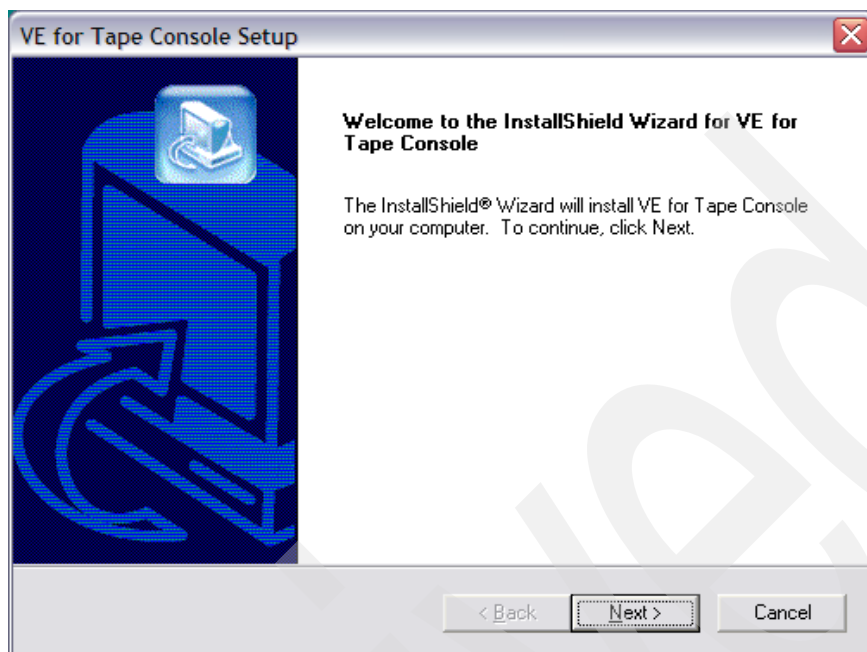

Figure 6-9 TS7530 VE for Tape Console Install Welcome panel
5. To continue the TS7530 VE for Tape Console setup, click **Next** on the panel shown in Figure 6-9.